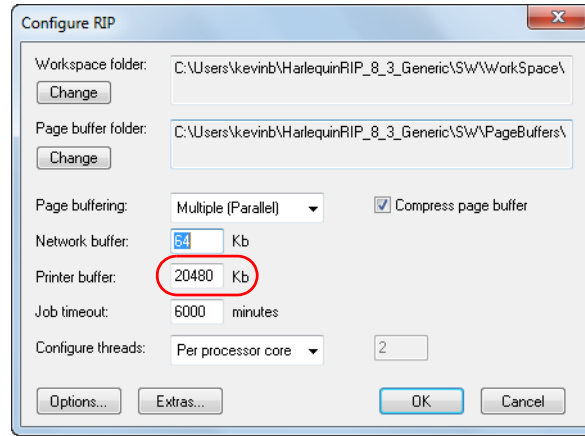

Figure C.1 The Configure RIP dialog
4. Enter the figure of 169000 in the Printer buffer box of the Configure RIP dialog, as shown Figure C.1.